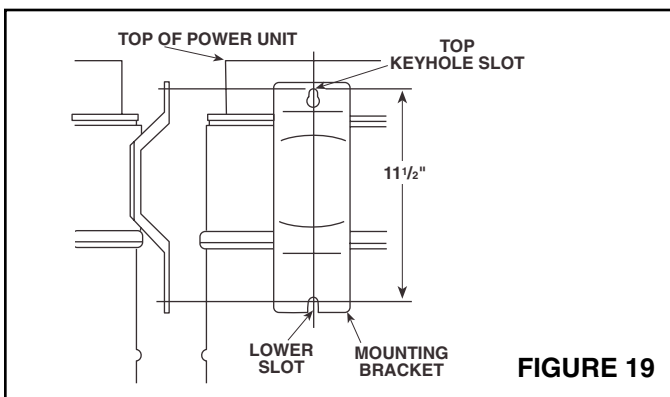

FIGURE 19
2. Drill $\frac{3}{16}$ " diameter pilot holes for the two (2) mounting screws in a wall stud or strong support. See Figure 19.